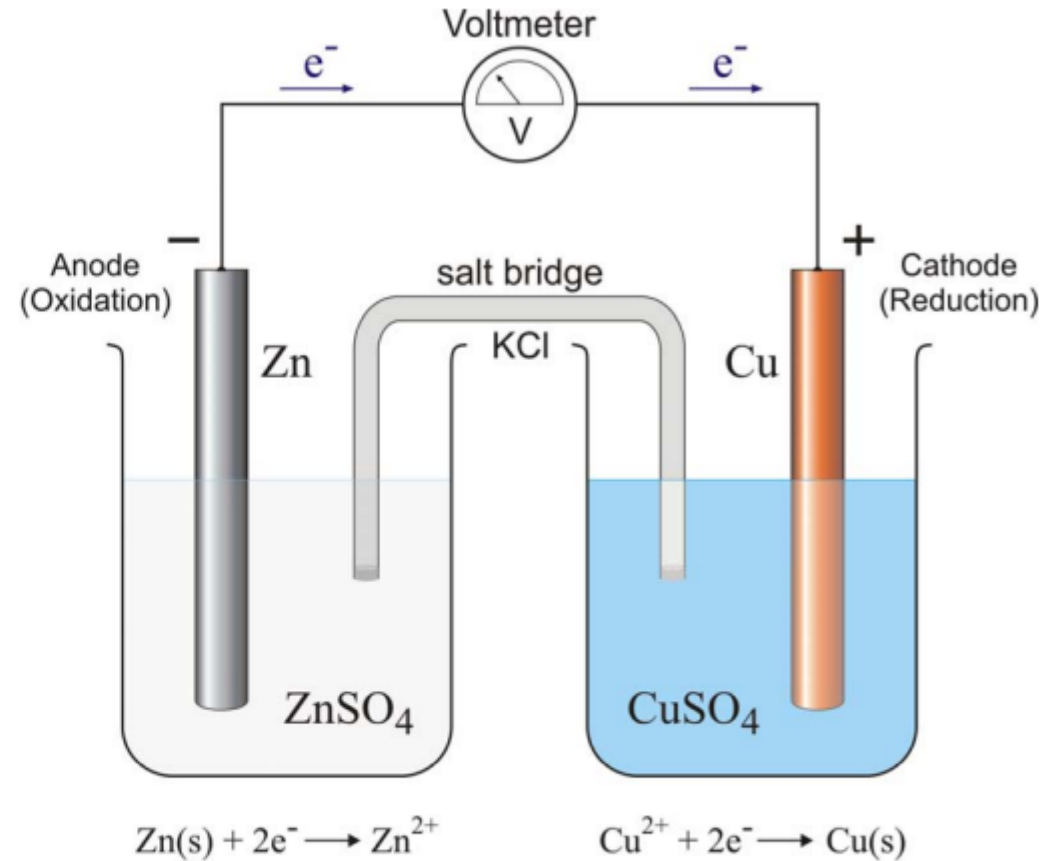

Figure 2 Daniel cell
- ❖ For example, zinc acts as the anode in Daniel cell. (see Fig. 2)